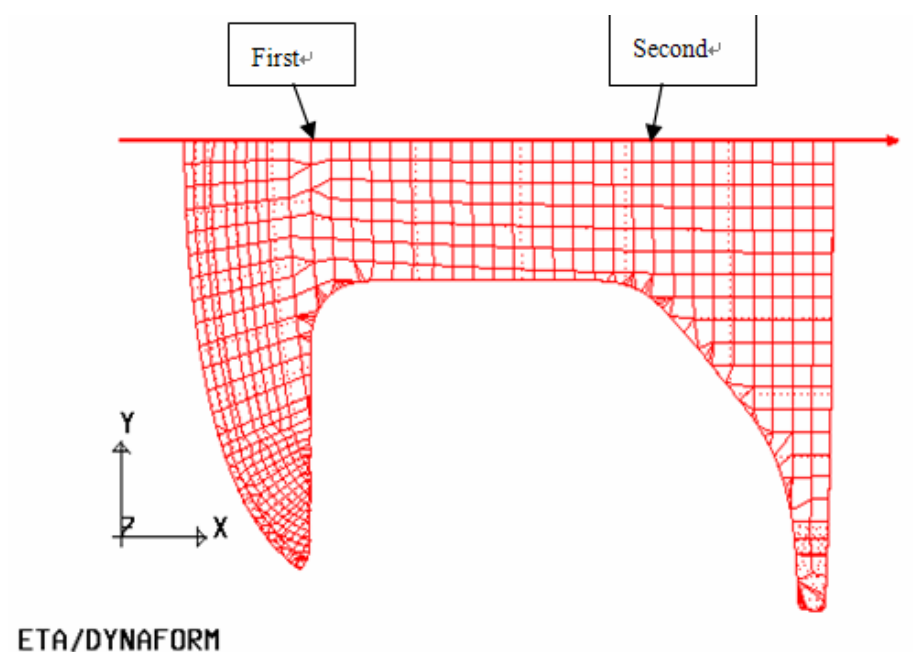
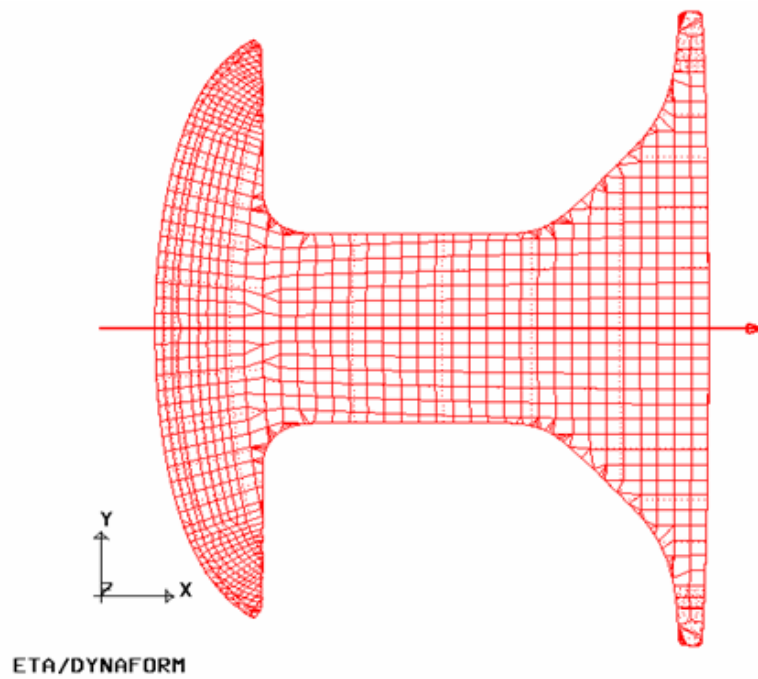

Figure 6.1.13 Half Symmetry Part With X-Z Plane
Figure 6.1.14 The Mirroring Result
5. Click on the MIRROR GEOMETRY SYMMETRY button, following by selecting the part as illustrated in Figure 6.1.13. The mirror result is illustrated in Figure 6.1.14.